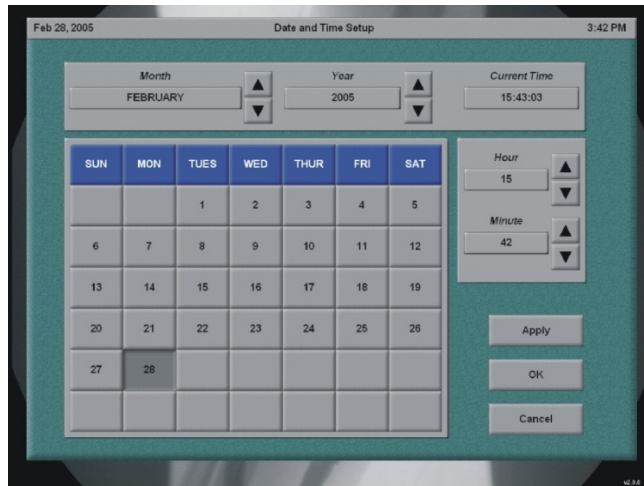

Figure 3-32: Date and Time Setup Window
1. From the system utilities menu, press **Date / Time Setup**. A pop-up window that allows setting of the date and time will display (Figure 3-32).